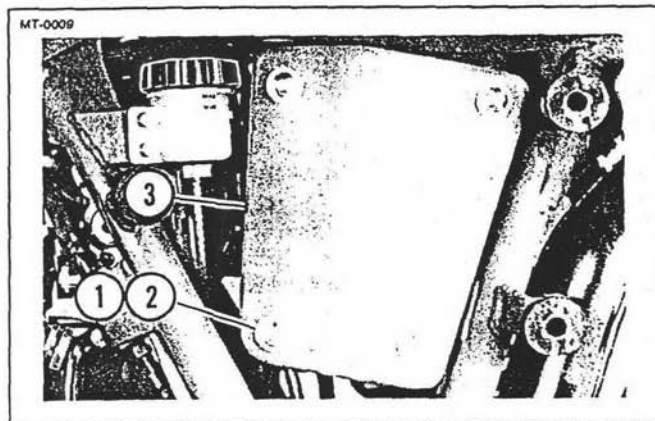

Figure 5-2. Airbox Lid
2. See Figure 5-2. Using straight blade in end of screwdriver grip from vehicle tool kit, remove screws (1), plastic washers (2), and airbox lid (3).
2. See Figure 5-2 (page 5-2). Install airbox lid (3) and secure with plastic washers (2) and screws (1).